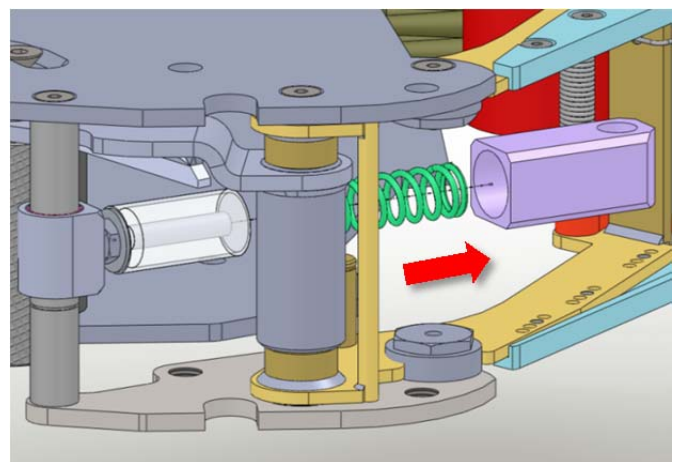

Figure 10-11
3. Remove the spring barrel from overlapping position as shown in Figure 10-11. Remove any broken particle from the spring guide. Install new compression spring into the captive position.